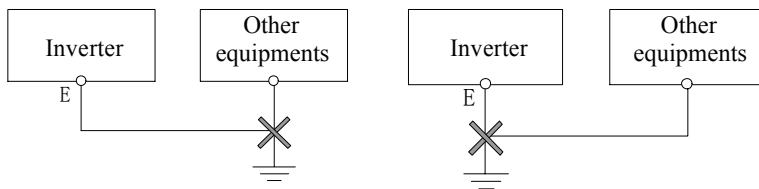

Fig.3-13 Common Grounding Pole Diagram (a) Fig.3-14 Common Grounding Pole Diagram (b)
(3) Common grounding pole (not recommended), seen in Fig. 3-13 and 3-14.